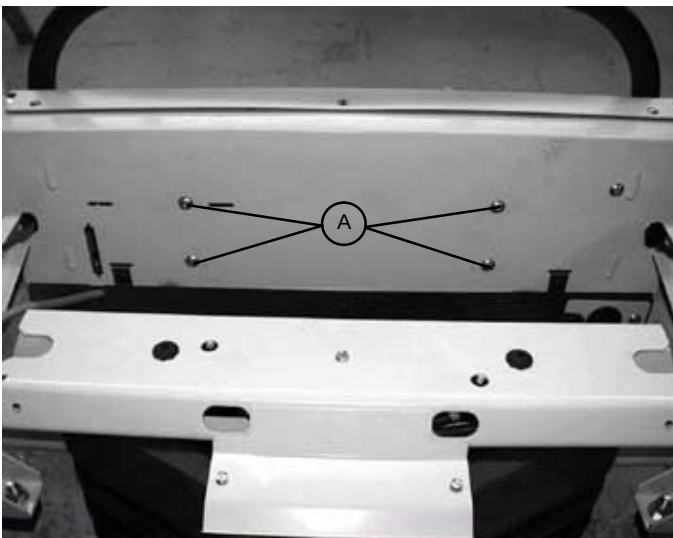

FIGURE 1
5. Using a T27 Torx, remove the four bolts (A) at the head end of the bed holding the control bar mounting bracket to the head end (see Figure 1).